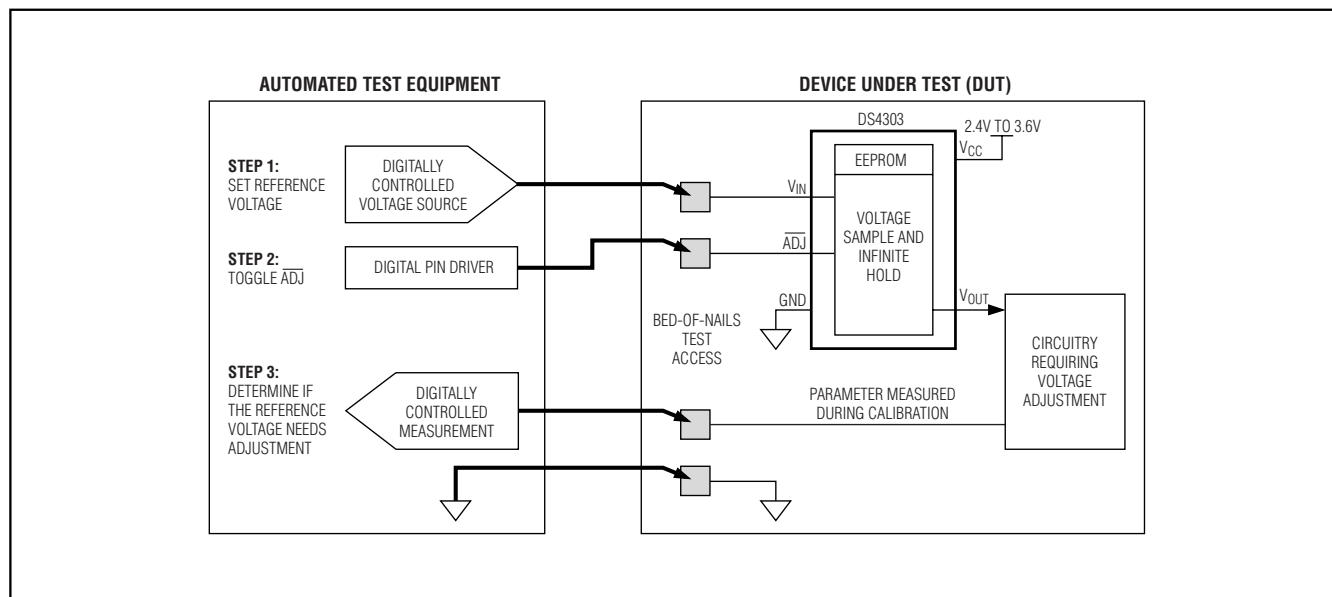

Figure 2. Application Circuit
Figure 2 details an example of how the DS4303 can be adjusted in an application. During factory alignment, a three/four-node bed-of-nails is used to: (1) provide the adjustment voltage through the V_{IN} pin, (2) control the ADJ input, and (3) sense the needed feedback parameter. During manufacture, an automated test procedure adjusts V_{OUT} , by changing V_{IN} , until the feedback parameter is optimized. After the bed-of-nails operation is complete, both the V_{IN} and ADJ inputs are left open